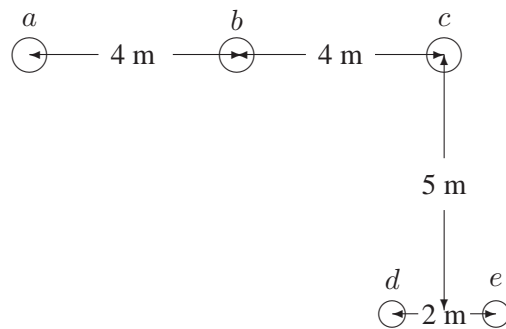

FIGURE 45
4.14. A three-phase, 60-Hz, untransposed transmission line runs in parallel with a telephone line for 20 km. The power line carries a balanced three-phase rms current of $I_a = 320 \angle 0^\circ$ A, $I_b = 320 \angle -120^\circ$ A, and $I_c = 320 \angle -240^\circ$ A. The line configuration is as shown in Figure 45. Assume zero current flows in the ungrounded telephone wires. Find the magnitude of the voltage induced in the telephone line.